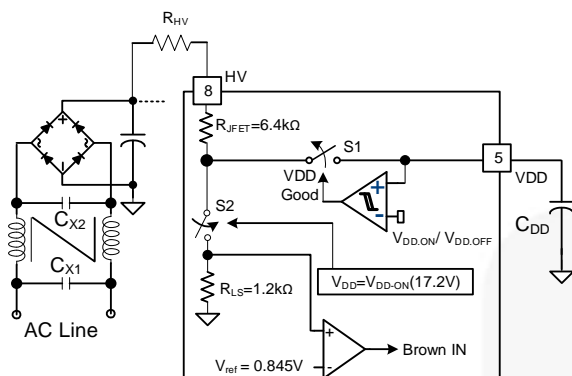
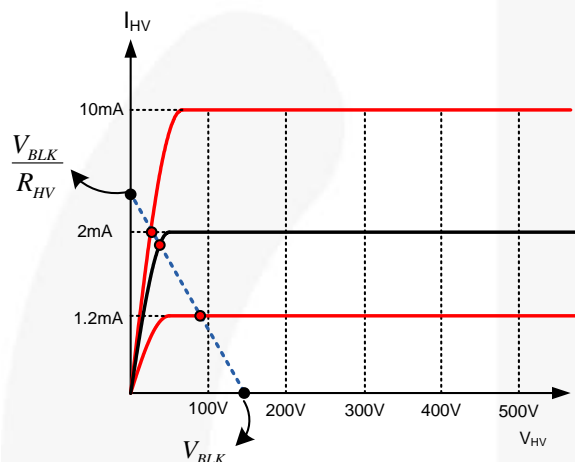

Figure 42. HV Startup Circuit
Figure 43. Characteristics of HV pin
Figure 42 shows the high-voltage (HV) startup circuit. An Internal JFET provides a high voltage current source, whose characteristics are shown in Figure 43. To improve reliability and surge immunity, it is typical to use a  $R_{HV}$  resistor between the HV pin and the bulk capacitor voltage. The actual current flowing into the HV pin at a given bulk capacitor voltage and startup resistor value is determined by the intersection point of characteristics I-V line and the load line as shown in Figure 43.
During startup, the internal startup circuit is enabled and the bulk capacitor voltage supplies the current,  $I_{HV}$ , to charge the hold-up capacitor,  $C_{VDD}$ , through  $R_{HV}$ . When the  $V_{DD}$  voltage reaches  $V_{DD-ON}$ , the sampling circuit shown in Figure 42 is turned on for  $t_{HV-det}$  (100  $\mu$ s) to sample the bulk capacitor voltage. Voltage across  $R_{LS}$  is compared with reference which generates a signal to start switching. If brown-in condition is not detected within this time, switching does not start. Equation (9) can be used to program the brown-in of the system. If line voltage is lower than the programmed brown-in voltage, FAN602F goes in auto-restart mode.